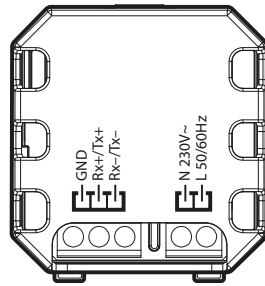

fig. 4p
- for 230 Vac models see Fig. 4p;